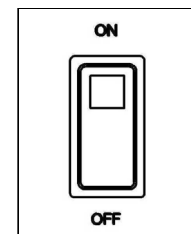

Figure 3-2 POWER Switch
- (1) Press the TIMED (top) end of the TIMED/MANUAL switch on the control panel.
- (2) Turn the POWER SWITCH (see Figure 3-2) to the ON Position on the steamer. The red indicator light on the control panel lights, and water fills the steam generator.
- (3) When the generator is full, the steamer automatically stops water flow.
- (4) Once the water has reached the safe level, the elements are cycled ON and OFF and automatically start to heat the water to the standby heat temperature.